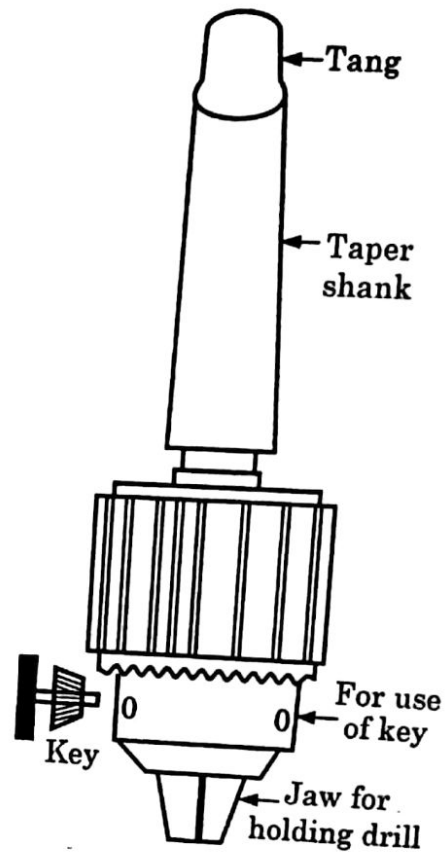

Fig. 2.35 : Drill Chuck
4. Drill Chuck : A drilling chuck is a gripping device with two or more adjustable jaws set radially to hold straight shank drills or other cutting tools and is provided with a taper shank which fits in the taper hole of the spindle. It is popular with the name of Jacop's chuck. Fig. 2.35 shows a drill chuck.